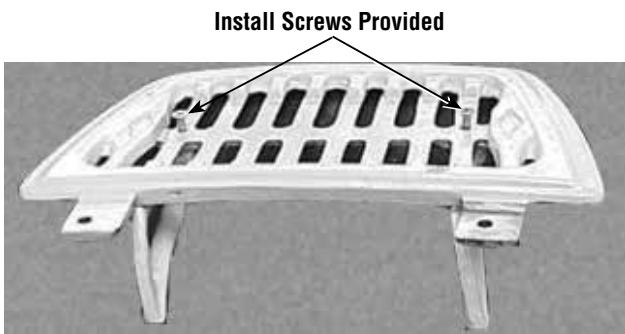

Figure 43 - Assemble Shelves to Brackets
2. Install decorative brackets to both warming shelves using the screws provided (see **Figure 43**).